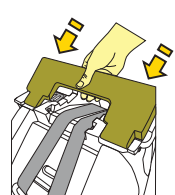

Figure 3
**Step 3:** Push to lock the recline foot into place (Figure 3 & 4).